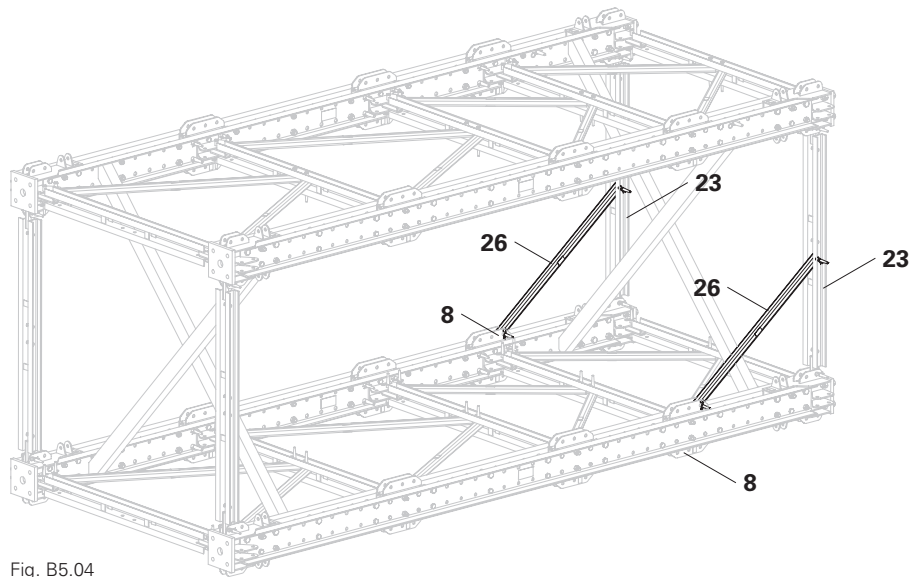

Fig. B5.04
1. On each side, insert 1x diagonal strut VST (26)* into the horizontal ledger VST 200 (23).
2. Connect the diagonal struts VST (26) to the bracing connector VST (8) and horizontal ledger VST 200 (23) using 1x fitting pin \varnothing 21 mm (9) each. (Fig. B5.04)